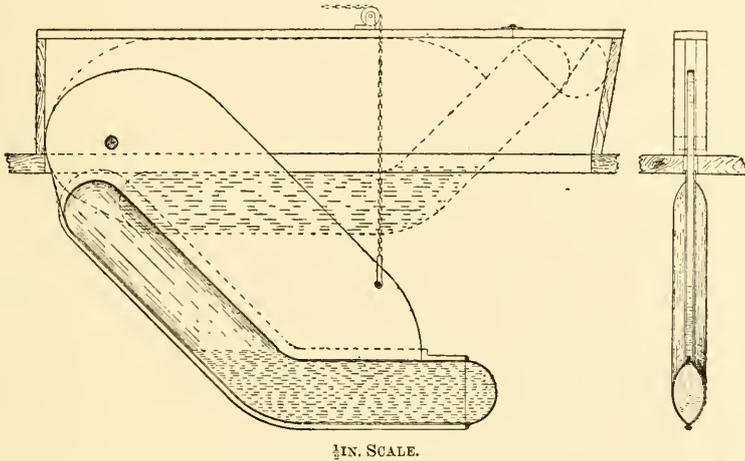

FIG. 254.
*Centre-plates (the strains and stresses of).*—Fig. 254 shows a boat heeled by a force represented by the arrow A, and this force also drives the vessel to leeward in the direction of the arrow. The motion in this direction is resisted, more or less, by the pressure of water on the hull and on the board B. This pressure is represented by the arrows CC. If, now, for the board we substitute a heavy metal plate, it is obvious that the weight of this D plate will act in the direction of the arrow E (Fig. 254).
The stress of the plate D acts in an exactly opposite direction to the board B. But, supposing the weight D exactly balanced the pressure CC on B, the board would have no straining effect whatever, but would rest free in its case as represented by F (Fig. 254).